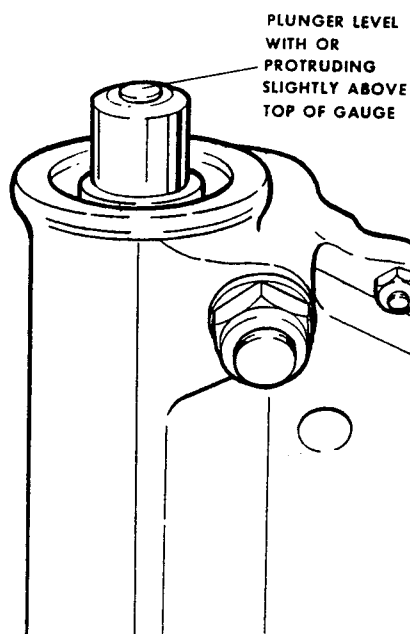

Fig 7 Gauging firing pin protrusion
10.3 Lower the protrusion gauge into the breech and position the centre indicating spigot over the point of the firing pin; lower the body of the gauge until it rests on the breech face. The indicating spigot shall be either flush with or slightly higher than the top of the gauge body (fig 7).